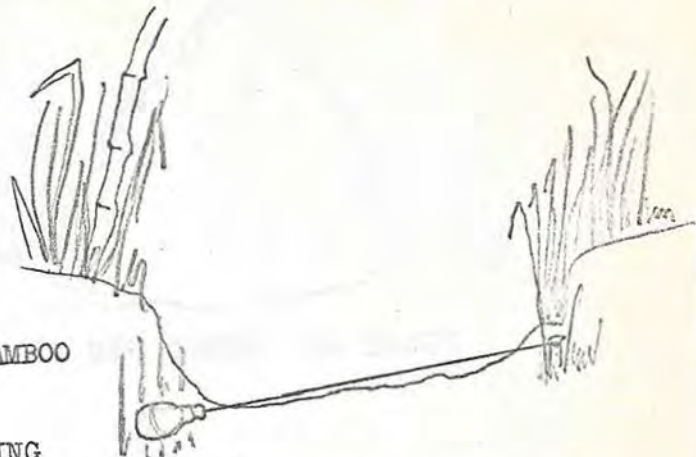

FIGURE 61 GRENADE ACROSS TRAIL
b. Grenade On Trail: The most common type of booby trap consists of a trip wire stretched across a trail, anchored to a small bush or tree and to a friction type fuze in the grenade. Most other booby traps are a variation of this idea. (Figure 61).